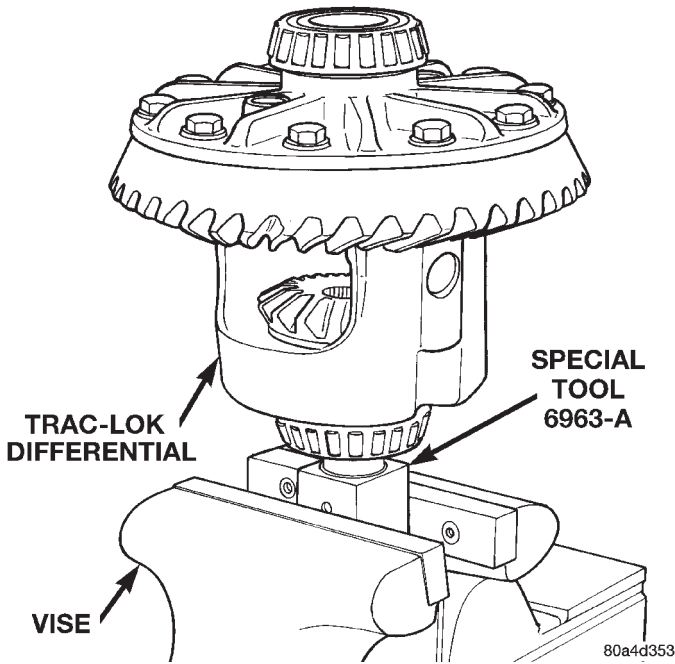
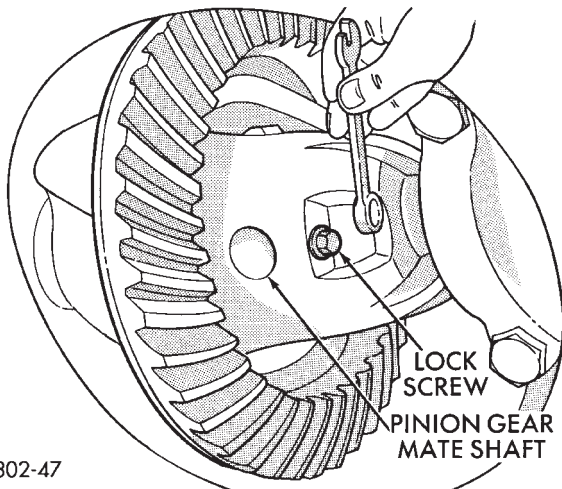

Fig. 63 Differential Case Holding Tool
Fig. 64 Mate Shaft Lock Screw
- (1) Clamp Side Gear Holding Tool 6963-A in a vise.
- (2) Position the differential case on Side Gear Holding Tool 6963-A (Fig. 63).
- (3) Remove ring gear, if necessary. Ring gear removal is necessary only if the ring gear is to be replaced. The Trac-Lok™ differential can be serviced with the ring gear installed.
- (4) Remove the pinion gear mate shaft lock screw (Fig. 64).